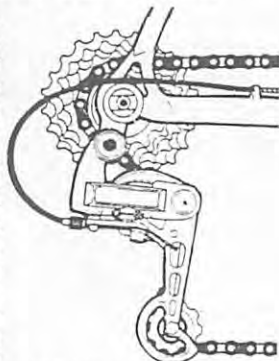

FIG. 44: Chain correctly mounted in rear derailleur.
4. If the chain is worn, replace it. Otherwise, dunk it in a solvent such as kerosene (do not use gasoline!). When clean, wipe off excess kerosene, lay the chain out flat (with newspaper underneath the chain) and spray the top of the chain with lubricant. Turn the chain over and spray the other side. Reinstall the chain, guiding it over the rear derailleur and through the front derailleur cage. Fig. 44 shows chain position in the rear derailleur. With the chain tool, push the pin back until it is flush with the other side of the link. Screw the chain tool handle a quarter turn more and remove it. The pin should show evenly on both sides of the link. If not, use the chain tool to even the pin up.